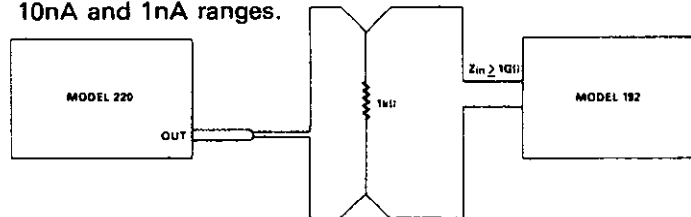

Figure 5-1. Calibration Setup
3. Remove the short from the output and connect the Model 220 and Model 192 as shown in Figure 5-1. Program the Model 220 output +.0000-3 amps. Monitor the Model 220 output on the Model 192. Invert the Model 220 output (press  $\pm$  and ENTER on the Model 220) and note the change in current. Calculate the average reading when the output is changed from positive to negative and adjust R304 for the calculated value. Then adjust R392 for a reading of less than  $\pm 100\text{nA}$  ( $100\mu\text{V}$  across  $1\text{k}\Omega$ ).
4. Set up the circuit shown in Figure 5-1 and 5-3. Follow Table 5-2 to calibrate the ranges of the Model 220.